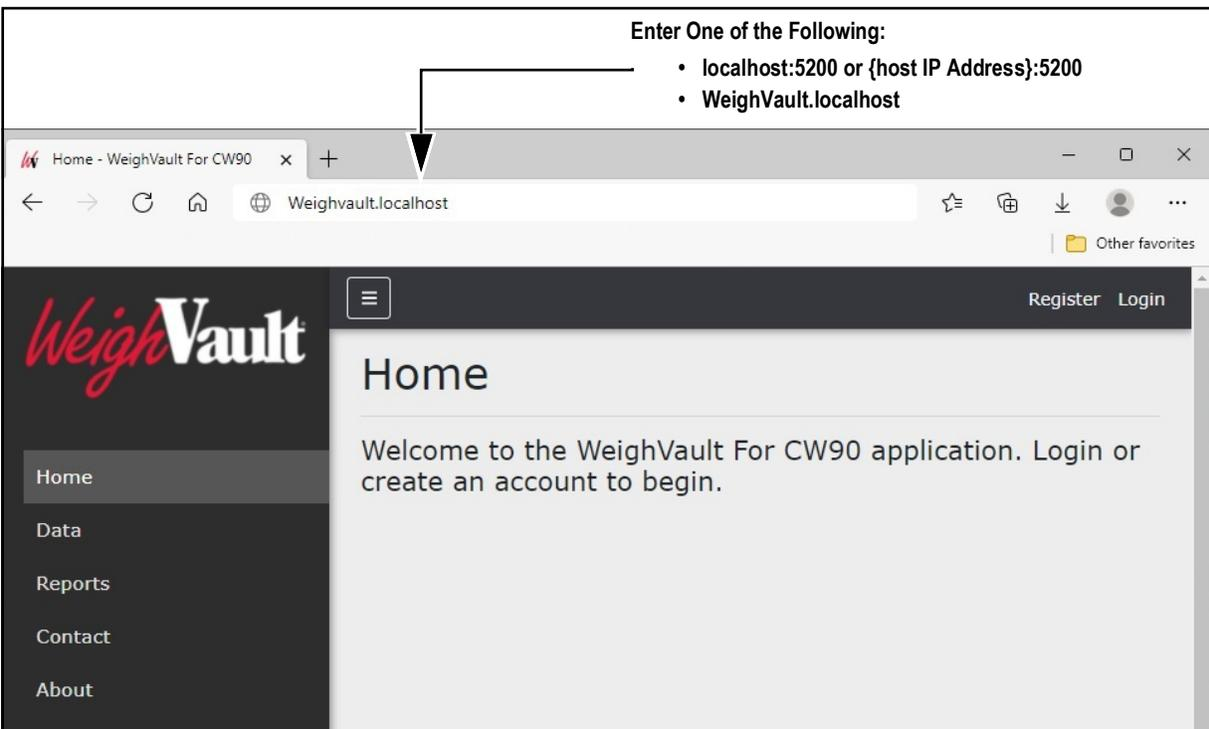

Figure 3-1. WeighVault Opened In Microsoft Edge
**NOTE:** Figure 3-1 illustrates WeighVault opened in Microsoft Edge.